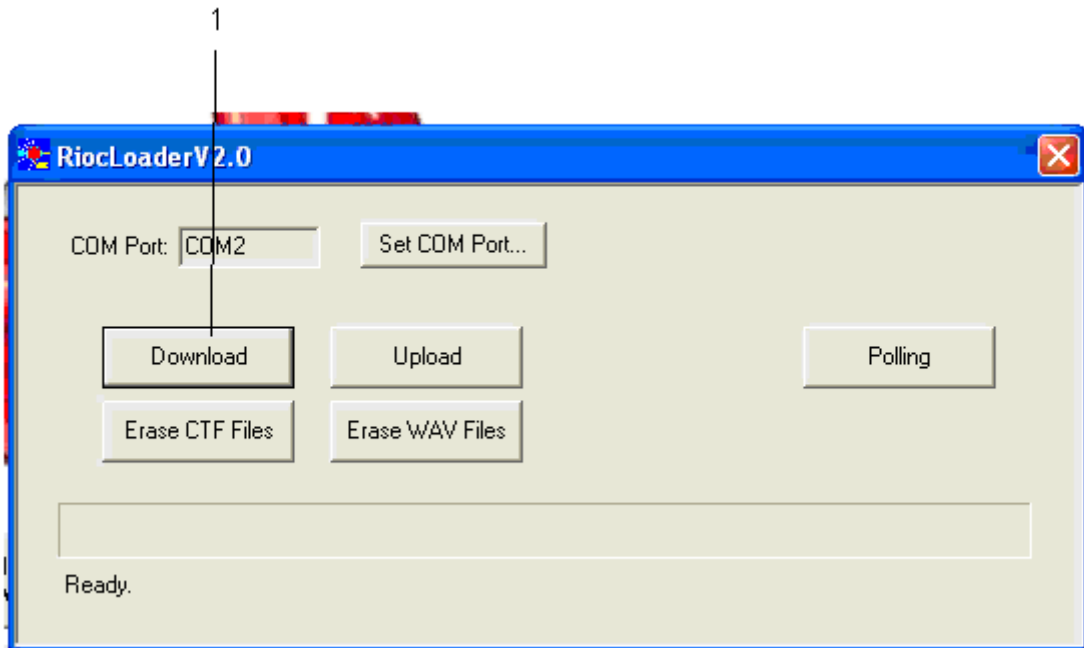

Figure 3
- (11) For RIOC 3 you must download the files that follow:
- (12) For each configuration file that must be downloaded do Step 2.B.(12)(a) thru (c).
- (a) Select the Download button (Ref. Fig 3, Item 1).